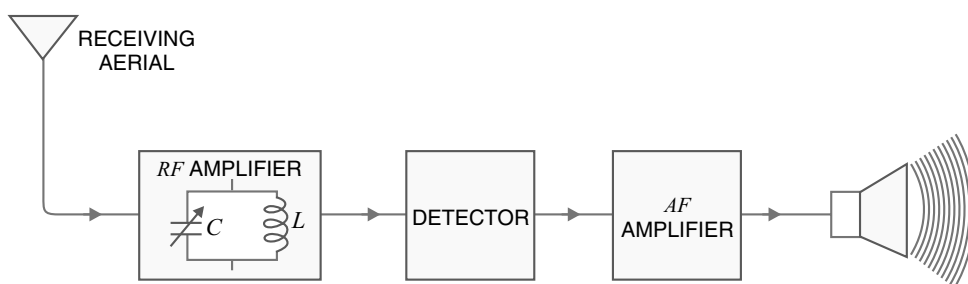

Fig. 14.26
**1. Straight radio receiver.** Fig. 14.26 shows the block diagram of a straight radio receiver. The aerial is receiving radio waves from different broadcasting stations. The desired radio wave is selected by the *RF* amplifier which employs a tuned parallel circuit. The selected radio wave is amplified by the tuned *RF* amplifiers. The amplified radio wave is fed to the detector circuit. This circuit extracts the audio signal from the radio wave. The output of the detector is the audio signal which is amplified by one or more stages of audio-amplification. The amplified audio signal is fed to the speaker for sound reproduction.